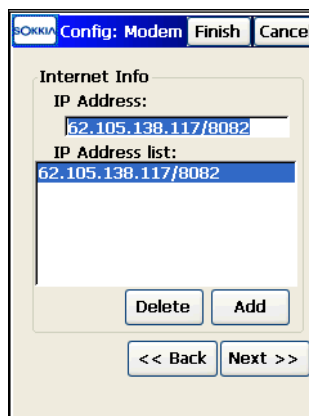

Figure 4-38. Modem Internet Info
3. If connecting to the *Controller*, use the *Dialup Network Connection* for connecting to the Internet to get correction data. Tapping **Next** displays the **Modem Internet Info** screen (Figure 4-38 on page 4-31).